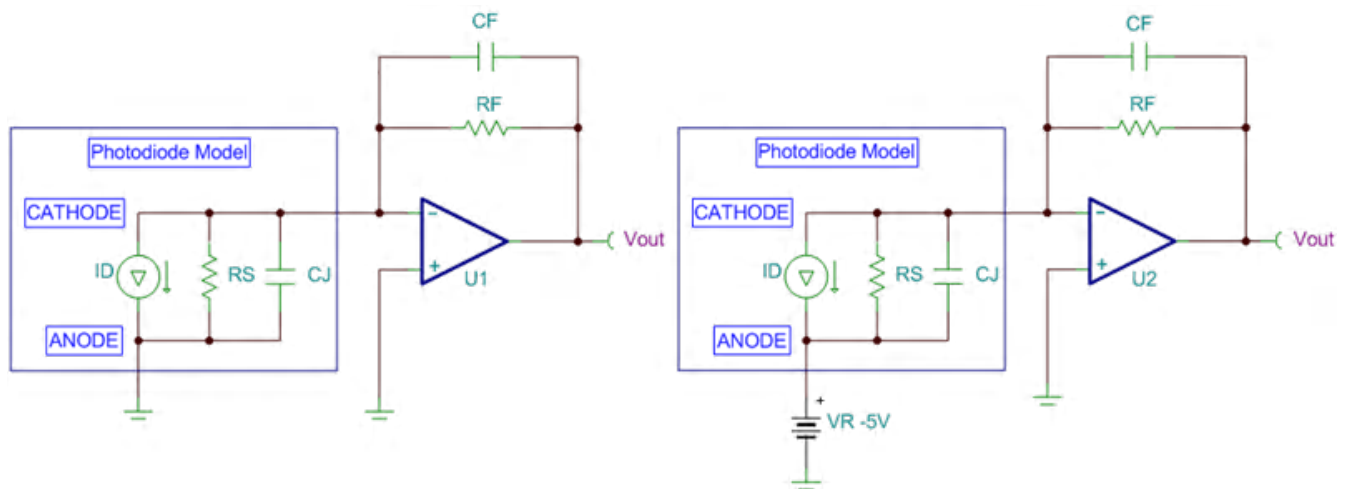
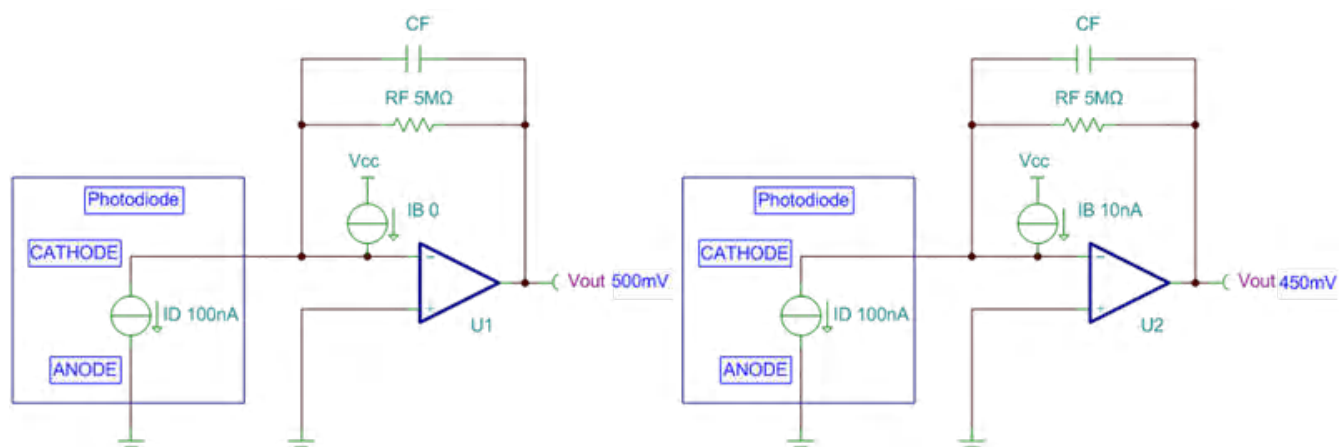

Figure 1. Photodiode in photoconductive mode with zero-volt bias (a); or reverse-voltage bias (b)
Figure 2. Input Bias Current Effects in Transimpedance Amplifier Circuits
Equation 1 calculates the direct current (DC) transfer function for the circuits shown in Figure 1 (note that the photodiode current (i_D) is flowing away from the op-amp inverting node):
2. Calculate the total capacitance (C_{IN}) at the inverting input of the amplifier. For the circuits shown in Figure 1, this is equal to Equation 3:
The example shown in Figure 1 uses a 5MΩ resistor to apply a 5mV/A gain to a 100nA full-scale input current. With the input bias current set to 0A, the full-scale output voltage is 500mV – which is expected based on the transfer function in Equation 1. The circuit on the right in Figure 2 displays the effects of the same circuit with an op amp i_B of 10nA. In this case, the output voltage is 450mV, which shows that the 10nA input bias current caused a 50mV (or 10%) error from the ideal 500mV output signal.